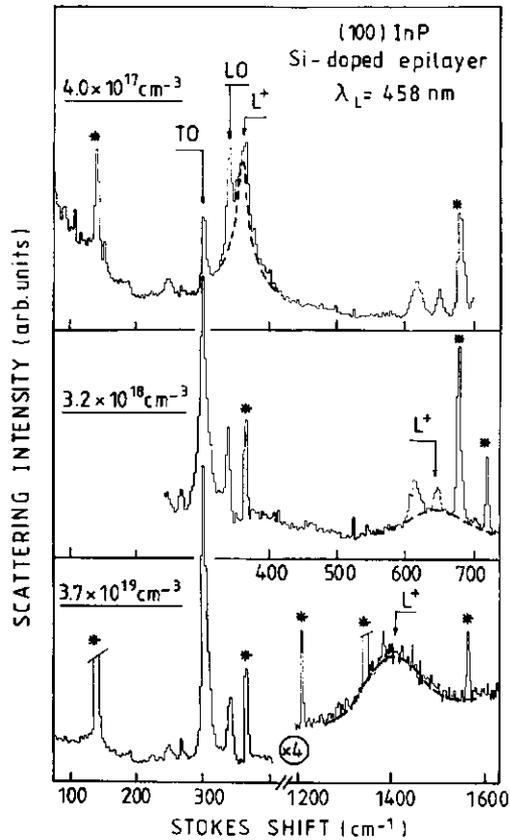

Fig. 1. RS spectra of epitaxial InP layers with different Si concentrations. Asterisks stand for argon emission lines used for the purpose of calibration.
Fig. 1. Raman spectra of tablets from (A) maize starch; (B) pure aspirin. Spectra were excited at 20°C; $\lambda_0 = 488.0 \text{ nm}$; spectral slit width, 1 cm^{-1} .
Figure 1. Raman spectra of (a) GaN as reference and samples obtained after 60 keV Mg⁺ ion implantation at doses of (b) 7.5×10^{12} , (c) 1.9×10^{13} , (d) 1×10^{14} , (e) 2×10^{14} and (f) 1×10^{16} cm⁻².